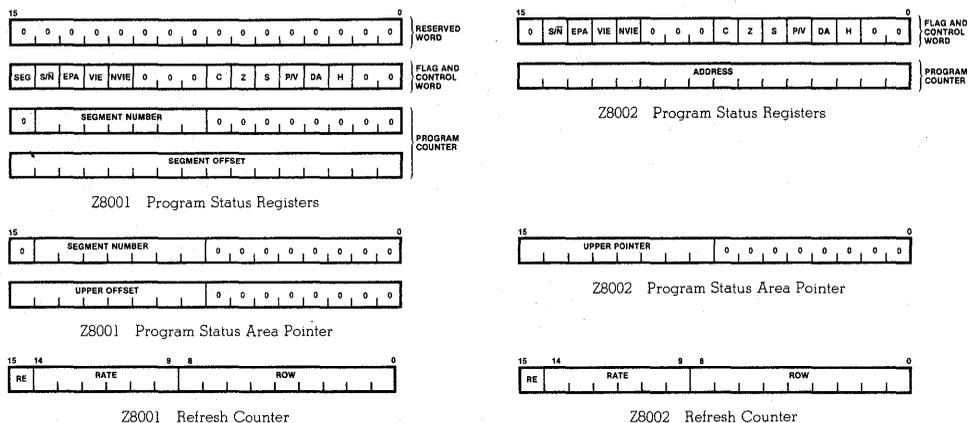

Figure 2.6. CPU Special Registers
In addition to the general-purpose registers, there are special-purpose registers. These include the Program Status registers, the Program Status Area Pointer, and the Refresh Counter; they are illustrated for both CPU versions in Figure 2.6. Each register can be manipulated by software executing in system mode, and some are modified automatically by certain operations.
ister values are fetched from this area when an interrupt or trap occurs. As shown in Figure 2.6, the PSAP comprises either one word (nonsegmented Z8002) or two words (segmented Z8001); for either configuration, the lower byte of the pointer must be zero. Refer to Chapter 7 for more details about the Program Status Area and its layout.
2.7.3 Refresh Counter. The CPU contains a programmable counter that can be used to refresh dynamic memory automatically. The refresh counter register consists of a 9-bit row counter, a 6-bit rate counter and an enable bit (Figure 2.6). Refer to Chapter 8 for details of the refresh mechanism.